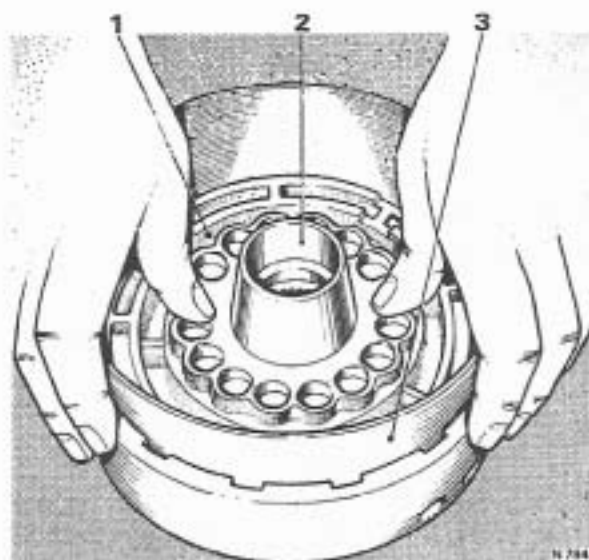

FIG. T246 FITTING THE FORWARD CLUTCH PISTON
7. Fit the clutch piston inside the forward and direct clutch piston installing tool RH 7949 (J-21409) then fit the assembly into the forward clutch housing (see Fig. T246).